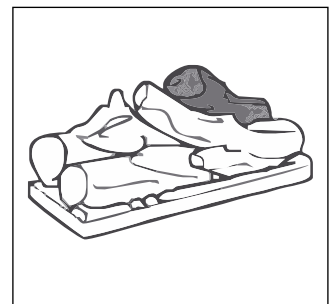

FIG 16
- d) Place log #4 on single right back pin, ensure left side of log rests on depression in #3 log. Refer **FIG 16**.